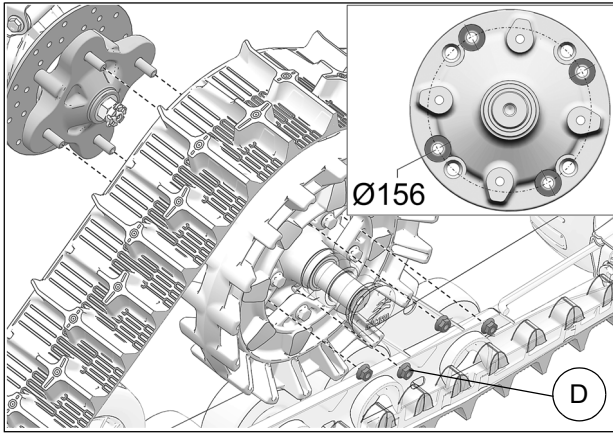

Fig. 18
7. Secure undercarriage to front hub using the provided 3/8-24 lug nuts (D). Use bolt circle Ø156mm. Fig. 18